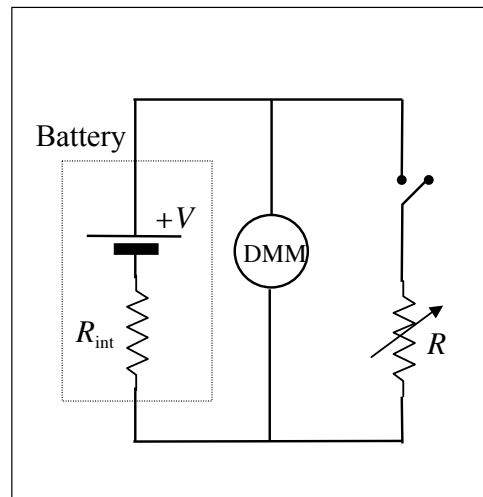

Figure 8 Output resistance
- To measure the internal resistance R_{int} of the battery provided, connect it in series with the 1000 ohm variable resistance box and a switch (figure 8).
- Then close the switch and vary the external resistance: (1) making a plot of R versus V , and (2) also finding the resistance, call it R , at which the measured voltage is *half* the open circuit value. Your circuit is then a potential divider in which half the voltage drop occurs across R_{int} and half across R , hence $R = R_{int}$.
- Replace the battery of figure 8 by the 'black box'.